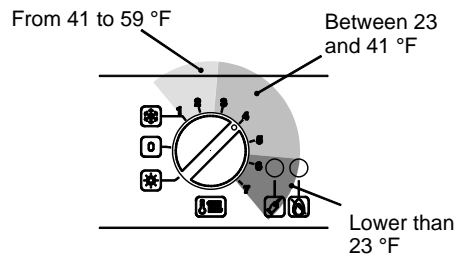

Figure 5.6
- In order to achieve optimal settings for economy and comfort, we recommend adjusting the operating temperature of the central heating water according to the outside temperature, positioning the knob as in figure 5.6